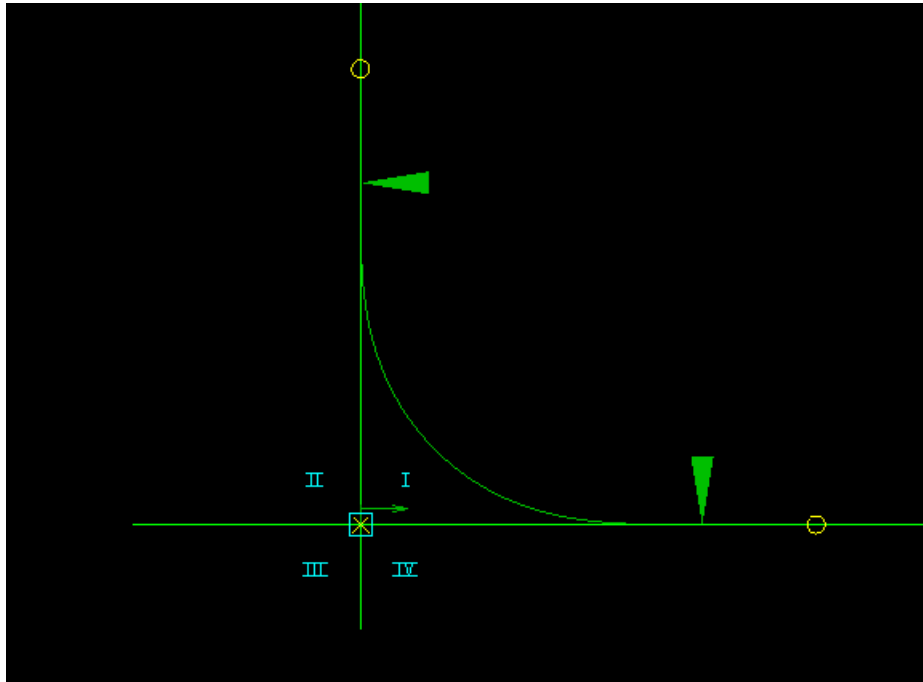

Figure 2.11: Two magnet points should be placed at least 0.5 meter from the end of a curve.
2. A curve should have 2 magnets placed at least at 0.5 meter from the end of the curve fig.2.11.